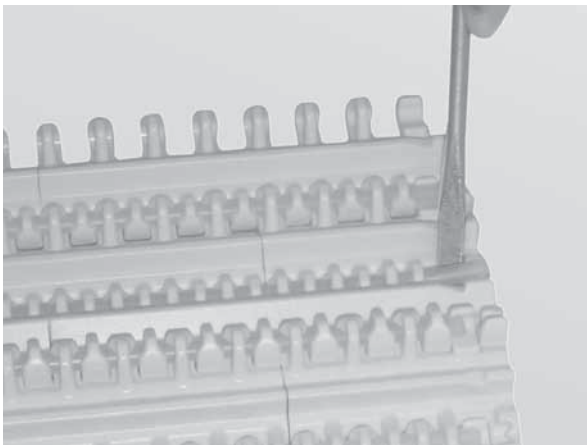

Figure 56
1. Place the edge of a flat head screwdriver between the two belt links and turn clockwise (**Figure 56**).